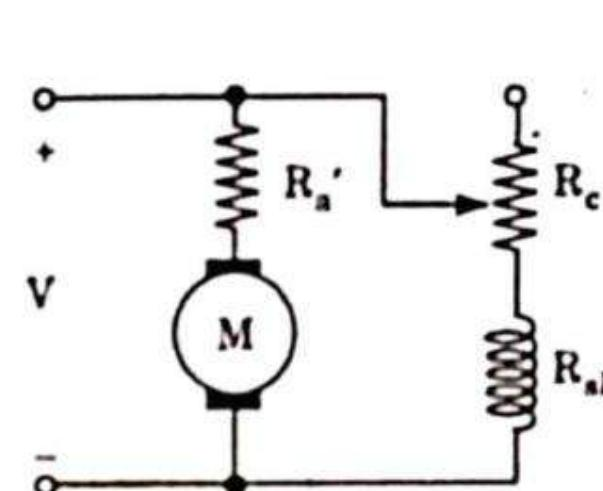

Fig. 3.11.1. Speed-control of a DC shunt motor by variation of field flux.
- In the shunt motor, this is done by connecting a variable resistor R_c in series with the shunt field winding as shown in Fig. 3.11.1. The resistor R_c is shunt field regulator.